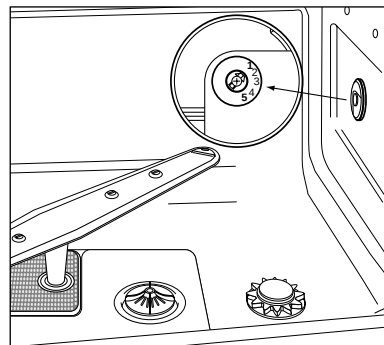

fig. 4b
- in some models you'll find it in the fixing ring nut inside the tub (fig. 4b).